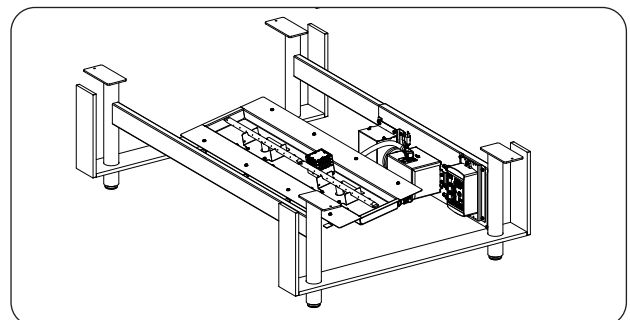

Fig. 33-4 Remove top piece, place frame
4. **CAREFULLY** set the top/main unit piece aside. Then place the metal frame in an appropriate location, (see Fig. 33-4, and refer back to the LOCATION section if needed).